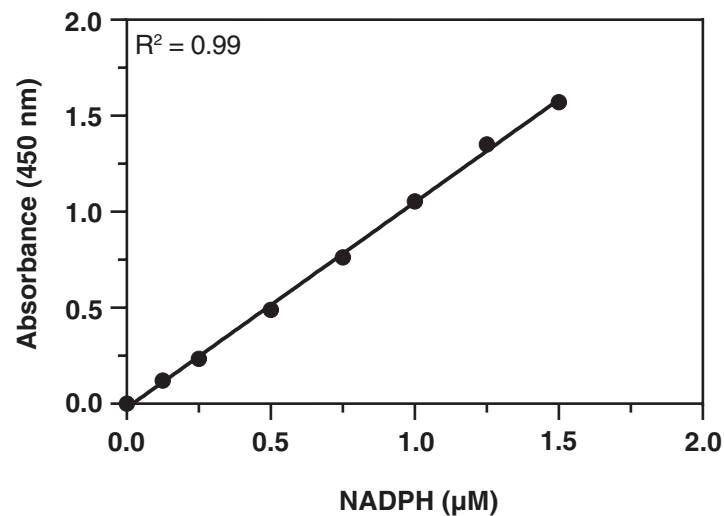

Figure 5. Standard curve
3. Plot the CSM of each standard as a function of the final concentration of NADPH from Table 4 on page 18. See Figure 5 on page 22 for a typical standard curve.